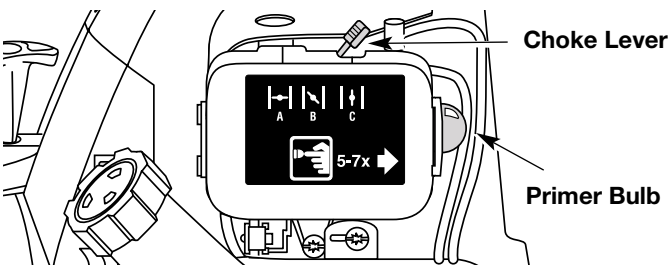

Fig. 9
4. Place the choke lever in the **FULL choke (A) |←|** position (Fig. 9).
**NOTE:** Slide the choke lever directly above the appropriate symbol on air filter cover decal (Fig. 9).
5. Fully press and release the primer bulb slowly 7 times. Gasoline should be felt and visible in the bulb (Fig. 9). If gasoline has not entered the bulb, press three more times, or until it does.
8. Move the choke lever to the **PARTIAL (B) |↘|** position (Fig. 9).
**NOTE:** The engine will not run in the **FULL choke (A) |←|** position.
10. Move the choke lever to the **RUN (C) |↑|** position and run at full throttle for 30 seconds.
2. Move the choke lever to the **PARTIAL (B) |↘|** position (Fig. 9).
3. Fully press and release the primer bulb slowly 7 times. Gasoline should be felt and visible in the bulb (Fig. 9). If gasoline has not entered the bulb, press three more times, or until it does.